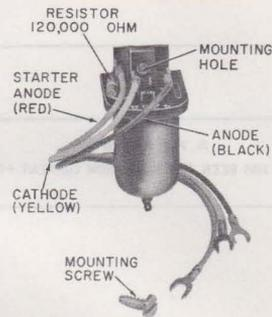
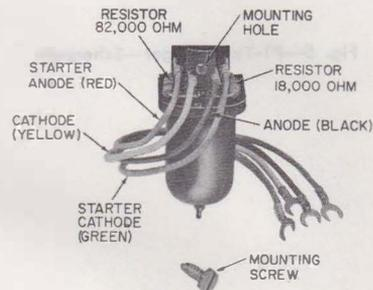
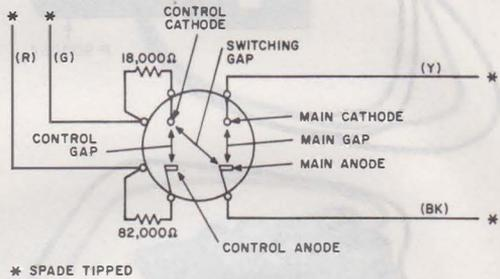

Fig. 1—426A Electron Tube
Fig. 2—425A Electron Tube
Fig. 4—Four-Element Tube, Schematic
2.01 The 426A (Fig. 1) and 425A (Fig. 2) tubes are permanently mounted on plastic angle brackets with a No. 6 self-tapping screw provided for mounting the bracket. Spade-tipped conductors, approximately 6 inches long are provided for connection to other apparatus.
2.03 The 426A electron tube (Fig. 1) is a 3-element, inert gas-filled, cold-cathode tube with three spade tip conductors; red, yellow, and black. A
2.06 The 425A electron tube (Fig. 2) is a 4-element inert gas-filled, cold-cathode tube with four spade tip conductors: red, green, yellow, and black. An 18,000-ohm resistor is in series with the control cathode and the green lead. An 82,000 ohm resistor, to limit current flow, is in series with the control anode and the red lead (Fig. 4).